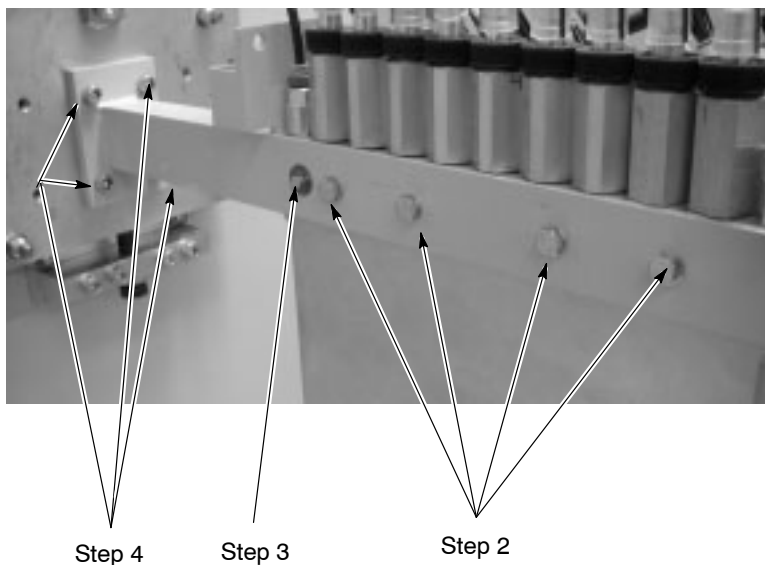

Figure 8-10 Lance Adjustment Steps 2-4
2. See Figure 8-10. Loosen the 8-mm through bolts securing the lance plates to the lance arms.